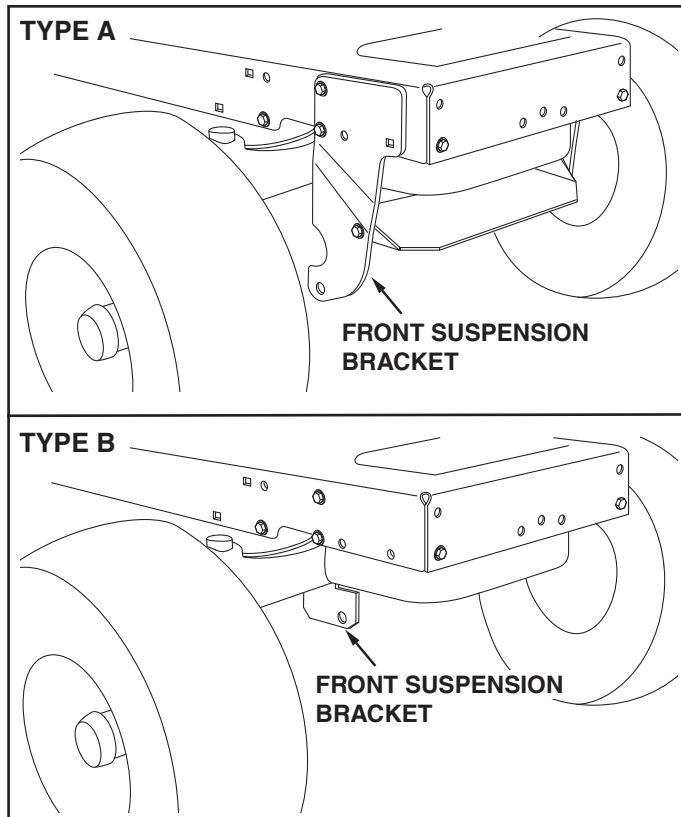

FIGURE 4
STEP 4: (SEE FIGURE 4)
- Compare your tractor to the illustrations shown in figure 4. If your tractor resembles the top illustration, go to step 5. If your tractor resembles the bottom illustration, go to step 7.